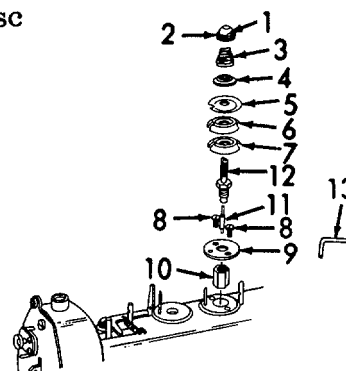

Figure 6-117. Rear Thread Tensioner and Thread Guide, Removal.
a. Removal (Refer to Figures 6-117 through 6-119).
- (1) Refer to Figure 6-117. Loosen setscrew (1) and remove knurled nut (2).
- (2) Remove spring (3).
- (3) Remove keeper (4) and felt pad (5).
- (4) Remove upper and lower tension discs (6 and 7).
- (5) Remove two screws (8) and plate (9).
- (6) Remove nut (10), pin (11), plate (9), and stud (12).
- (7) Remove thread guide (13).